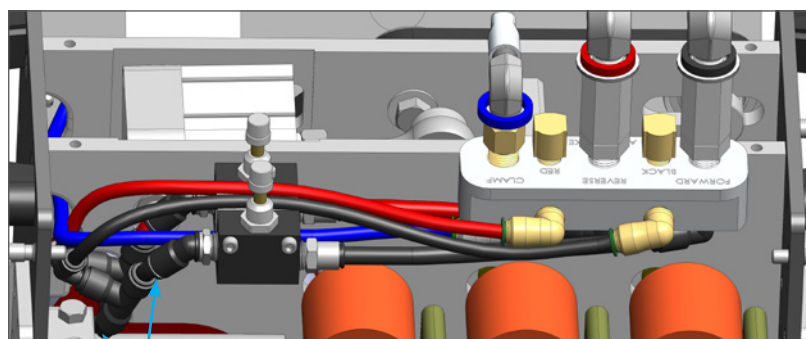

FIGURE 3
2. Unplug the three tubes from the bottom of the manifold **(FIGURE 2)** and remove the 2 hex head bolts using a 7/16 socket driver or box wrench. Remove and retain the top 3 JIC fitting assemblies, and disconnect the 3 air tubes from the bottom of the Air Manifold. Discard the old manifold. **(FIGURE 3)**
2. Connect the red and black tubes with the T-fittings from the manifold to the fittings on the left side of the flow controls. Connect the other end of the T-fittings to the end of the cut tubing. The tubes from the manifold assembly should lie between the flow control knobs. **(FIGURE 3)**